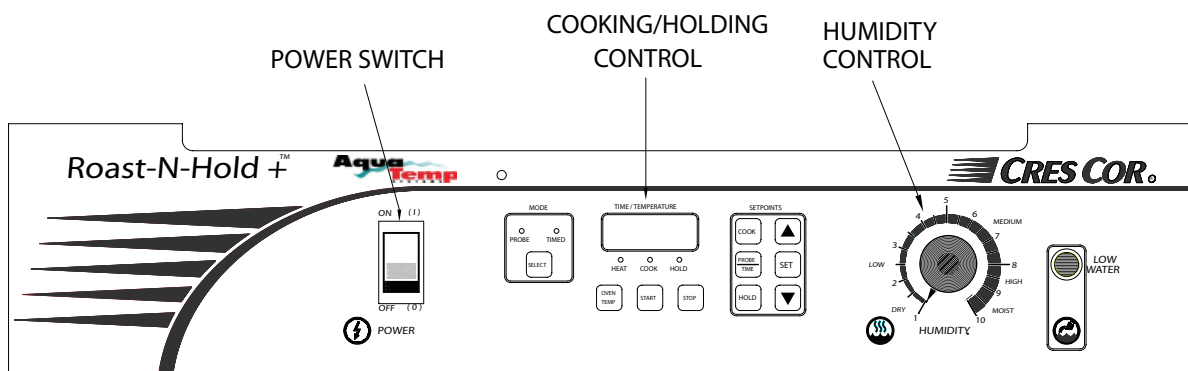

Figure 1: Control Panel
- Humidity control is on the right of the control panel (see Figure 1).